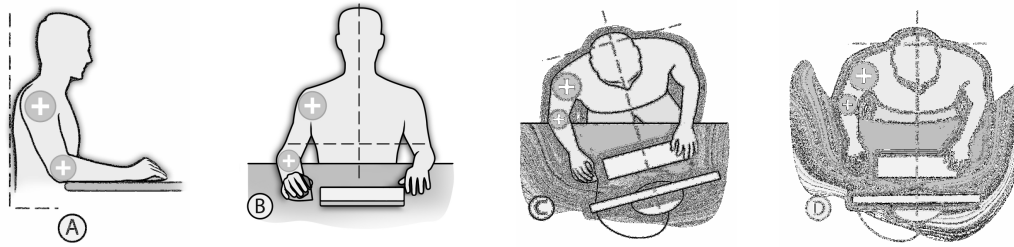

Fig. 2 – Recommended Postures.
1) Make sure that your forearm is resting on the same surface where the **ORTHOMOUSE** is used; your elbow must be at an angle of approximately 90° and your arm must descend from your shoulder at an angle of up to 45° with the vertical. This way, the hand, the wrist and the forearm will automatically assume the "position of function", resting on the **ORTHOMOUSE**. (See Fig. 2).
What should we take into account in relation to these elements? The difference between their heights must be such that when the user is correctly seated (vertebral spine against a backboard, support for the feet and arms) his forearms are automatically accommodated relaxed and fully supported by the desk at an angle of approximately 90° with the elbow. This way, the hand will rest on the mouse on the "position of function" (See Fig. 2). The Fig. 2-D, showing the best shape of the table border. Fig. 2-A puts in evidence the rounded borders; acute angles cause peripheral circulation interruption, attrition in the superficial nervous branches and skin irritation.